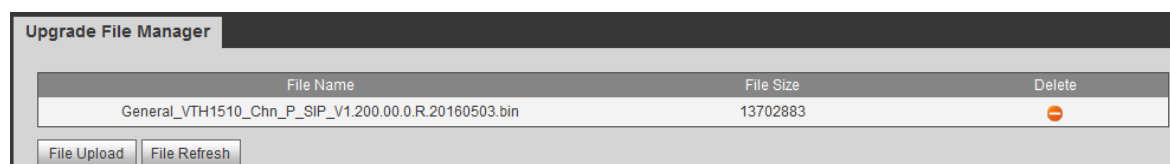

Figure 4-32
Step 1. Select Info Search>Upgrade File Manager> Upgrade File Manager, see Figure 4-32.